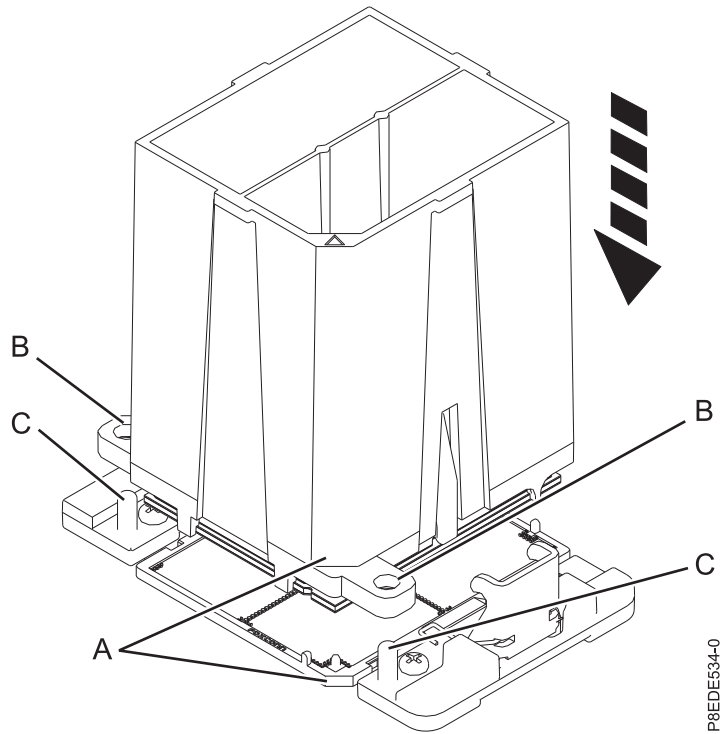

Figure 92. Installing the system processor module
- b. Lower the tool and system processor module onto the socket. Align the beveled corner (A) of the tool with the beveled corner on the socket. Ensure that the two guide pins (C) are inserted into the alignment holes (B) on each side of the tool. Use care to lower the tool evenly without tilting the tool. See Figure 92 on page 90.